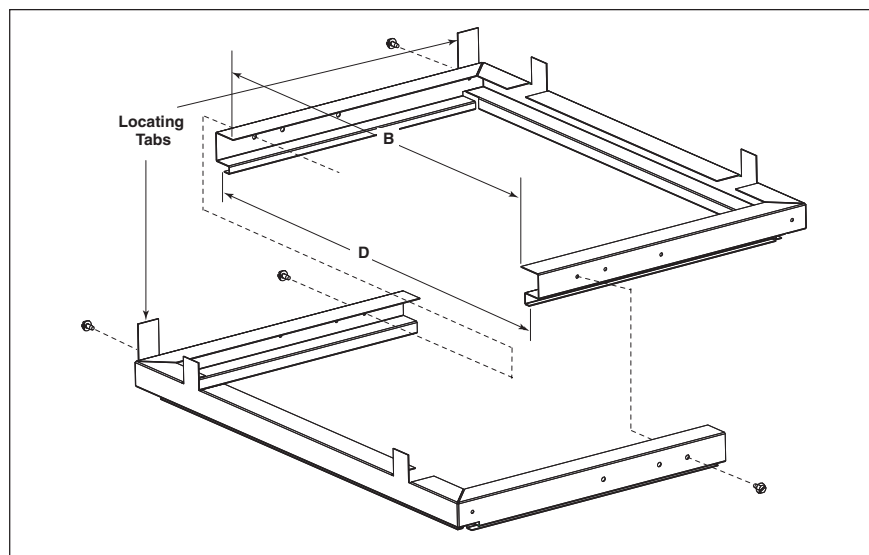

Figure 1. Sub-base Arrangement
### ASSEMBLING THE SUB-BASE (See Figure 1 and 2)
2. Arrange metal sub-bases as shown in Figure 1.
4. Assemble locating tabs as shown in Figure 1.